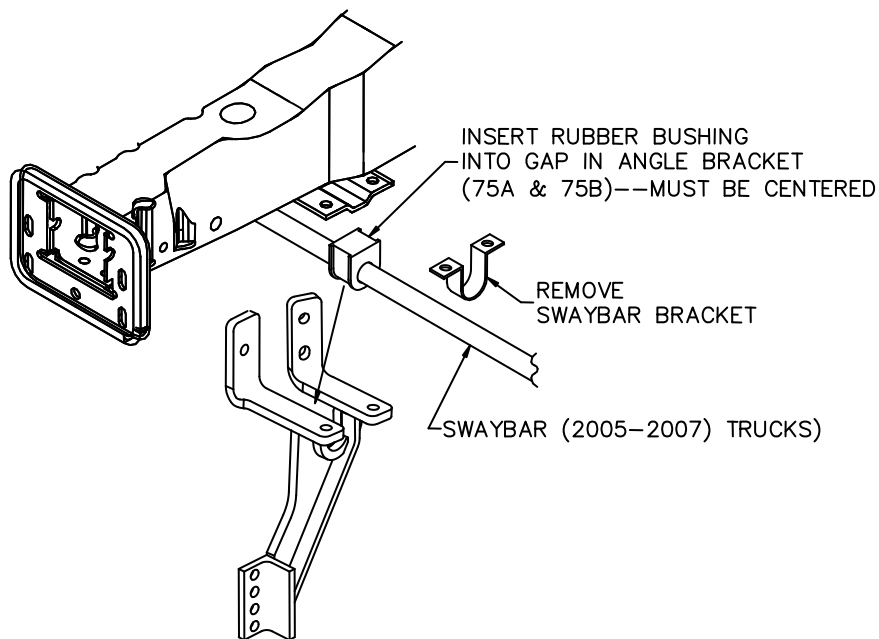

Figure 1
5. Install RIGHT ANGLE BRACKET (75A) and LEFT ANGLE BRACKET (75B) from the mounting points on PUSH BEAM SUPPORT PLATES (62A & 62B) to their respective positions on the truck frame. For 1999 through 2005 model year vehicles, ANGLE BRACKETS (75A & 75B) may be bolted directly to the bottom of the frame using $\frac{1}{2}$ " - 13 x 1-1/2" Hex Head Bolts (A) and $\frac{1}{2}$ " - 13 Self-Locking Nuts (B) provided. For 2005 and later model year vehicles, un-bolt the swaybar from the bottom of the frame. Remove the swaybar bracket and use ANGLE BRACKETS (75A & 75B) to secure the swaybar to the frame. You will need to slide the rubber swaybar bushing outward on the swaybar. Be sure that the rubber bushing is centered in ANGLE BRACKETS (75A & 75B) and is properly seated against ANGLE BRACKETS (75A & 75B) and the bottom of the frame (Refer to Fig. 1). Tighten the hardware in the bottom of ANGLE BRACKETS (75A & 75B) before proceeding to step 6.